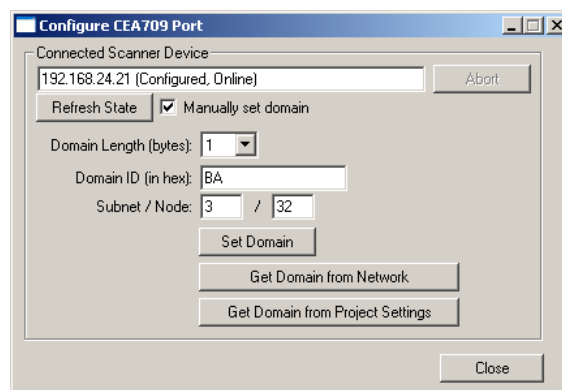

Figure 185: Configure CEA-709 port dialog.
- If the device has not been installed with a network management tool (e.g. LNS-based tool), press the **Configure CEA709 Port** button. This opens the device install dialog as shown in Figure 185.